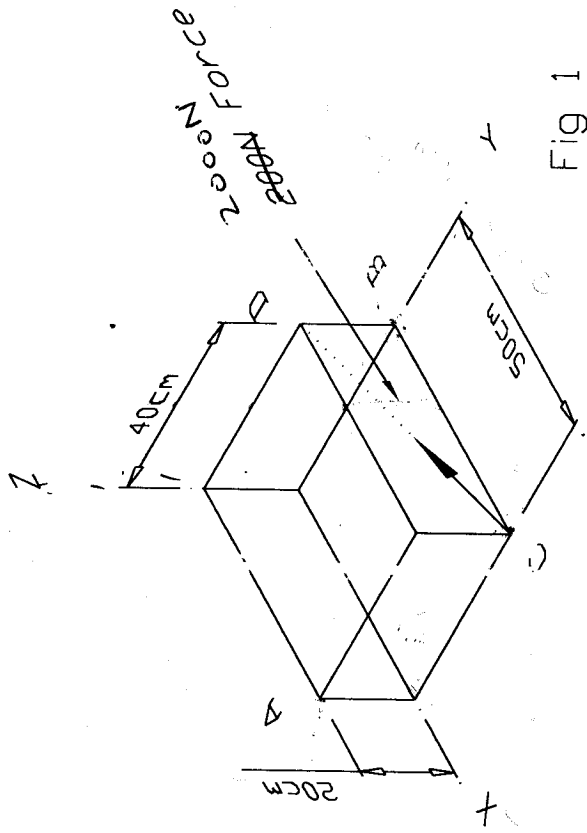

Fig 1
1. Find the moment of the 2000N force about the diagonal line AB. Express the answer as a vector (*Fig 1*).